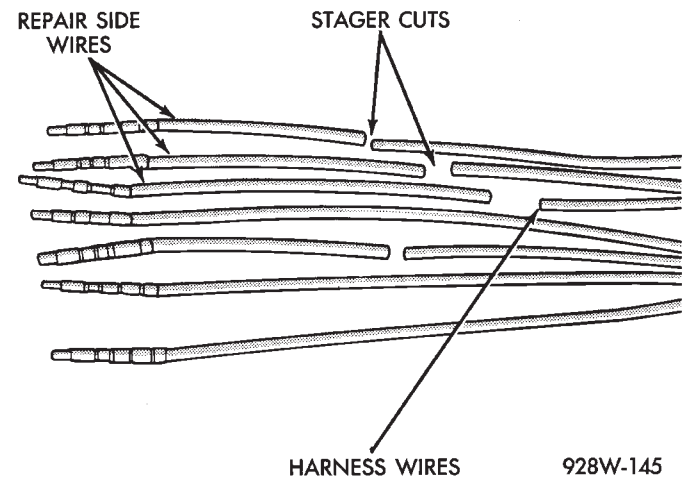

Fig. 20 Stagger Cutting Wires
- (1) Disconnect battery.
- (2) Disconnect the connector (that is to be repaired) from its mating half/component.
- (3) Cut off the existing wire connector directly behind the insulator. Remove six inches of tape from the harness.
- (4) Stagger cut all wires on the harness side at 1/2 inch intervals (Fig. 20).
- (5) Remove 1 inch of insulation from each wire on the harness side.
- (6) Stagger cut the matching wires on the repair connector assembly in the opposite order as was done on the harness side of the repair. Allow extra length for soldered connections. Check that the overall length is the same as the original (Fig. 20).